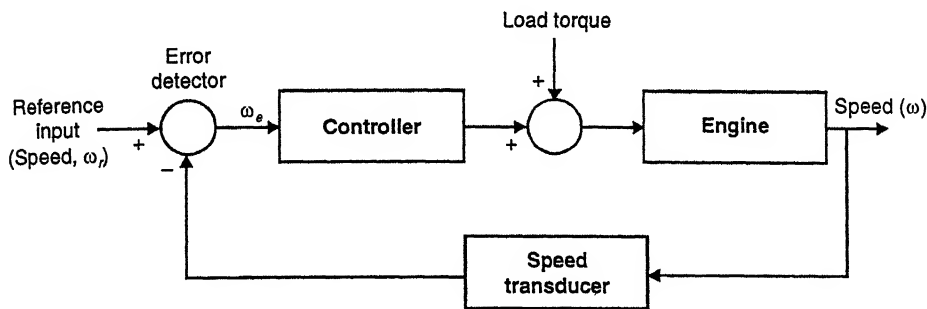

Fig. 7.5. Closed-loop idle-speed control system.
- A **closed-loop idle-speed control system** is shown in Fig. 7.5.